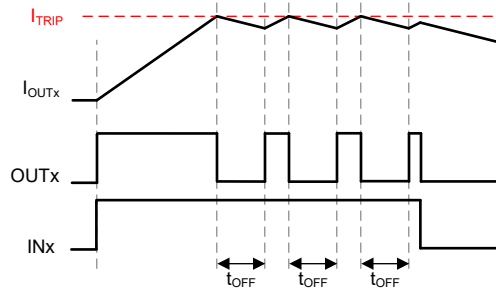

Figure 6-4. Inductive Load Connected to ground, fixed off-time current chopping
- For the scenario shown in Figure 6-4, with $IN_x = 1$, the low-side MOSFET is turned on for t_{OFF} duration after I_{OUT} exceeds I_{TRIP} . After t_{OFF} , the high side MOSFET is again turned on till I_{OUT} exceeds I_{TRIP} again.